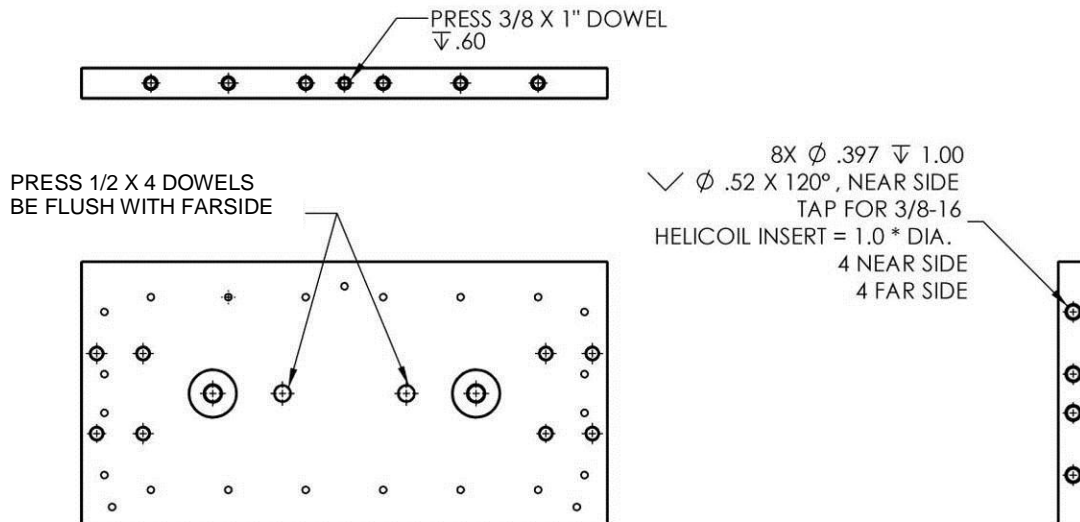

Figure 56: Prep Work for D0901533 Upper Outer Wall
(1) 3/8" x 1" dowel pin
(2) 1/2" x 4" dowel pins
- Install Nitronic 60 Helicoil threaded inserts into D0901533. See Figure 56.
- Press (1) 3/8" x 1" dowel pins into D0901533 as shown on Figure 56. Pins should sit about 0.4" above the surface.
- Press (2) 1/2" x 4" dowel pins into D0901533 as shown on Figure 56. Pins should be flush on the back of D0901533 as shown on Figure 56 & Figure 57.